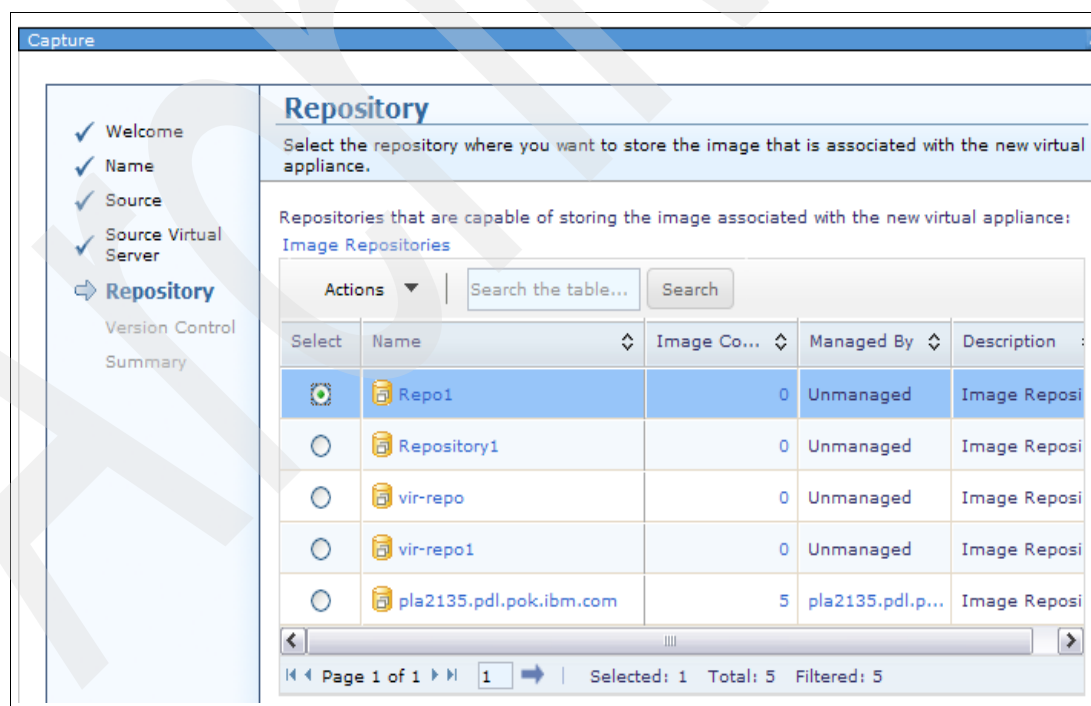

Figure 5-17 Capture the virtual appliance: Selecting the repository into which to store the image
2. The Capture virtual appliance wizard takes you through the steps involved to provide the source virtual server repository where you want to store the image that is associated with the new virtual appliance, as shown in Figure 5-17.